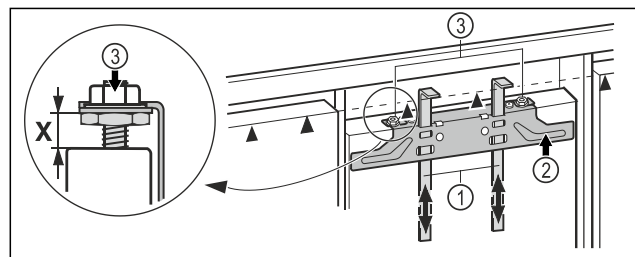

Fig. 39
- ▶ Push the assembly aids Fig. 39 (1) up to unit door height. Lower stop edge ▲ of the assembly aid = upper edge of the unit door to be assembled.
- ▶ Unscrew the fastening bar *Fig. 39 (2)* using the lock nuts *Fig. 39 (3)*.